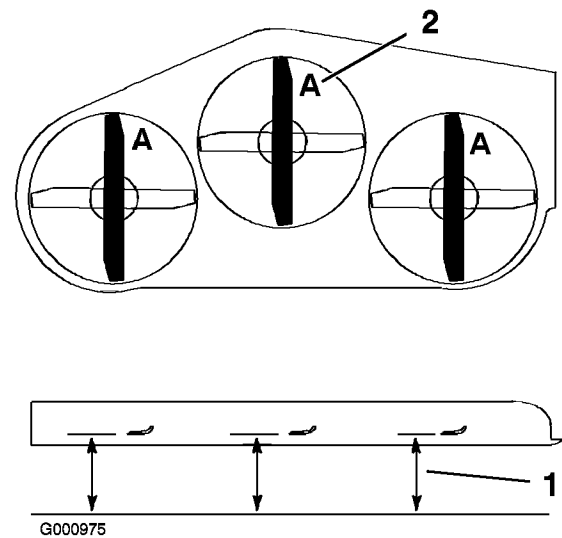

Figure 76
3. Rotate the blades until the ends face forward and backward (Figure 76). Measure from a level surface to the cutting edge, position **A**, of the blades (Figure 76). Note this dimension.